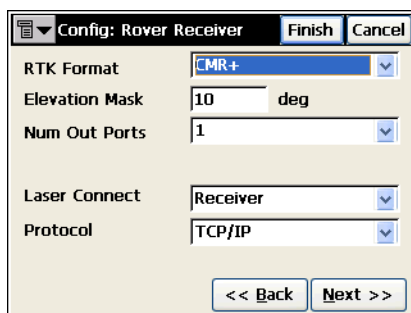

Figure 2-34. Config: Rover Receiver Options
- **Output Ports:** adds the *Num Out Ports* field to the **Config: Rover Receiver** screen to set the number of ports available to output NMEA messages (Figure 2-34 on page 2-31).
- *RTK Protocol*: adds the option to select the protocol to receive RTK corrections (Figure 2-34):
- *Output Ports*: adds the *Num Out Ports* field to the *Config: Rover Receiver* screen to set the number of ports available to output NMEA messages (Figure 2-34 on page 2-31).
- *Laser Config*: when selected, the *Laser Connect* field will appear on the *Config: Rover Receiver* screen to set the device the laser is connected to: either *Receiver* or *Controller*. The **Next** button opens the *Laser Config* screen to configure the laser device (Figure 2-34 on page 2-31).